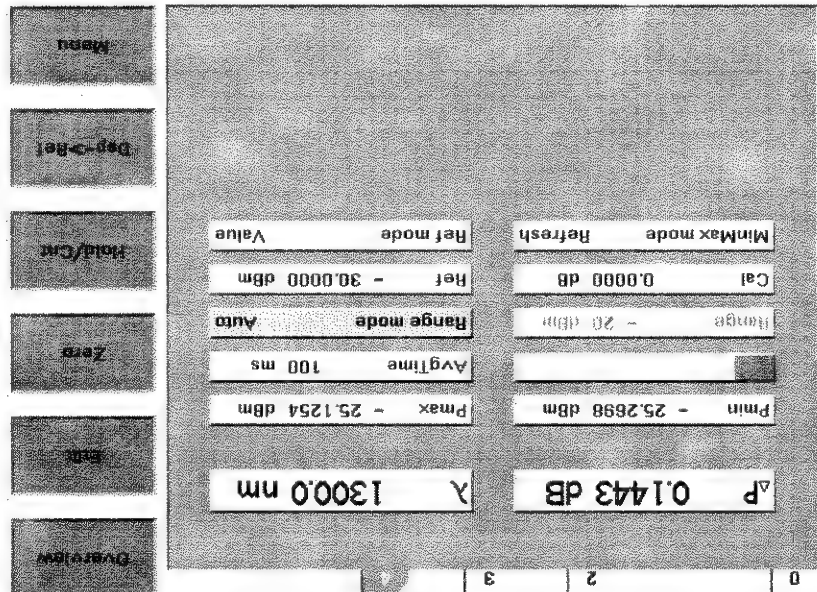

Figure 51 MinMax Mode Screen
- 3. Move to <Refresh>, by using the cursor key, and press Enter. The screen in Figure 51 appears.